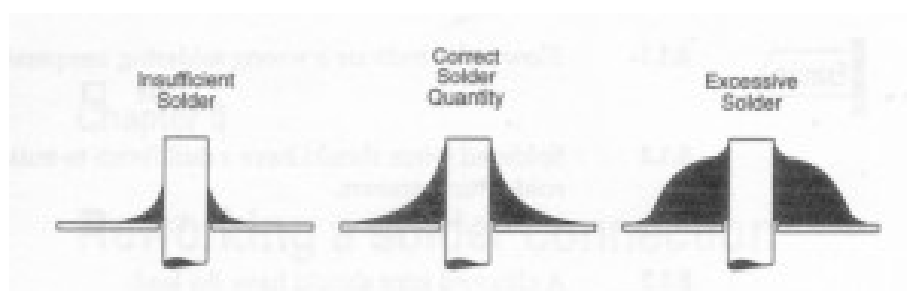

Figure C4 - Solder quantity comparison
6. Allow the joint to cool and visually inspect for defects or other problems. You should have a solder joint with a bright shiny finish and a profile like that shown in Fig. C4.